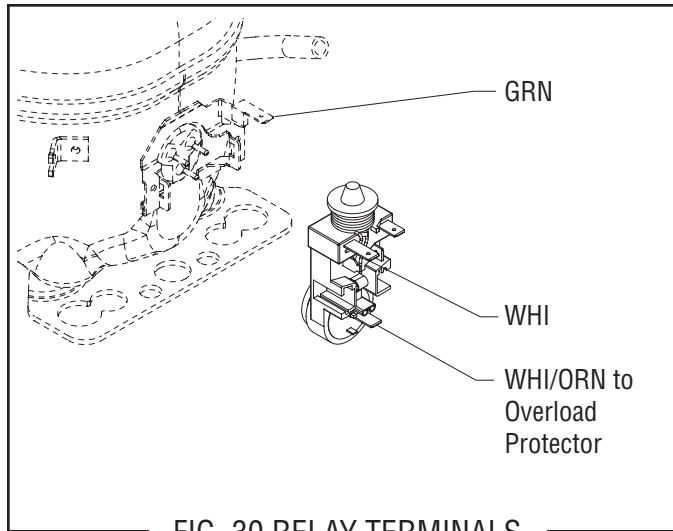

FIG. 30 RELAY TERMINALS
Compressor Start Relay: Refer to FIG. 30
##### Compressor Start Relay: Refer to FIG. 30
1. Remove the terminal cover (4)
3. Pull relay (1) off of the compressor pins and discard.
5. Refer to Fig. 30 and reconnect the wires.
6. Reinstall terminal cover (4).